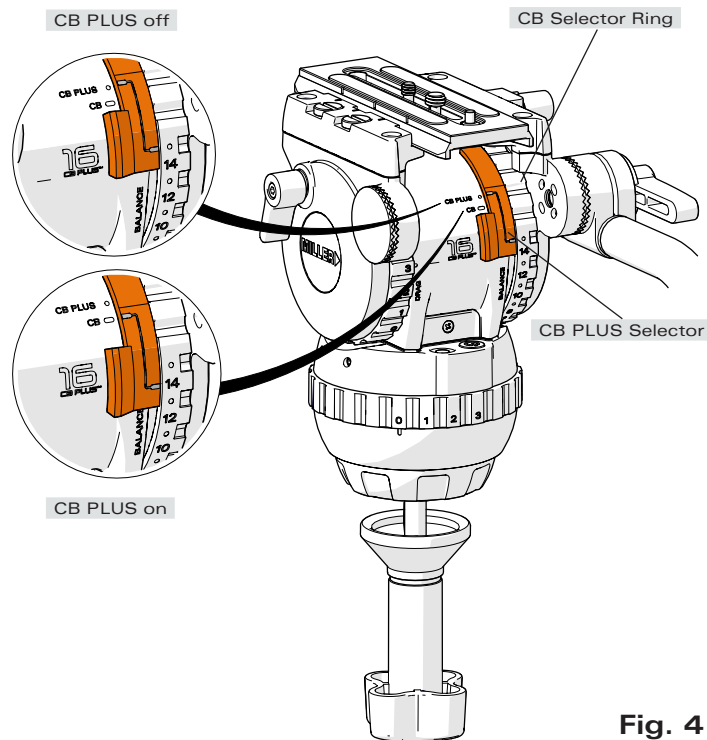

Fig. 4
The counterbalance system was designed to neutralise the effect of the camera weight when it is tilted. The Compass XV Fluid Head offers a 16 position counterbalance system which is operated with the CB SELECTOR RING and the CB PLUS SELECTOR (Fig. 4). With the Compass XV systems it is also possible to disengage counterbalance (position zero),
- 3.1 For safety it is generally better to start at a higher counterbalance position (e.g. position 14) and work your way to the correct setting, this is to reduce any chance of unwanted tilt drops (Fig. 4).